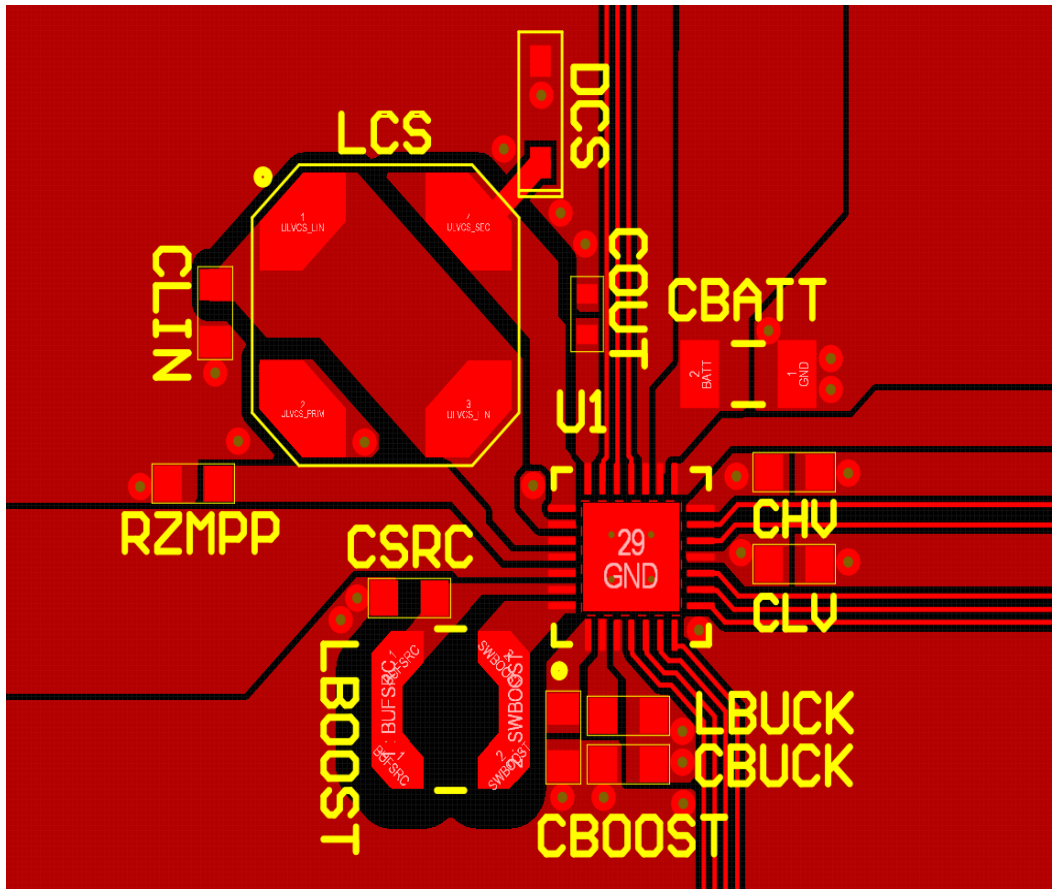

Figure 23: Layout example for the AEM20941 and its passive components
- The switching nodes (**BUFSRC**, **SWBOOST**, **SWBUCK** and **BUCK**) must be kept as short as possible, with minimal track resistance and minimal track capacitance. Low resistance is obtained by keeping track length as short as possible and track width as large as possible between these switching nodes and the AEM20941 pins. Minimal capacitance is obtained by maintaining a large distance between the switching nodes and other signals. We recommend removing the ground plane, the power plane and the bottom layer ground pour under **LBOOST** and **LBUCK** footprints, as well as adding distance between **BUFSRC/SWBOOST** and the top ground pour, as shown in Figure 23.
- The **GND** return path between the decoupling capacitors and the AEM20941 thermal pad, which is the AEM20941 main **GND** connection, must be as direct and short as possible. This is preferably done on the top layer when possible, otherwise by internal/bottom plane, using low resistance vias to decrease layer-to-layer connection resistance. In Figure 23, this **GND** return path is done on an internal plane.